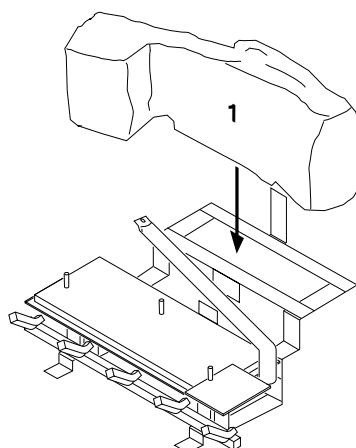

Figure 46 - Installing Log No. 1
1. Place log #1 (back log) on grate. Make sure the lower middle section of the log fits securely into the open area in back of grate (see Figure 46).